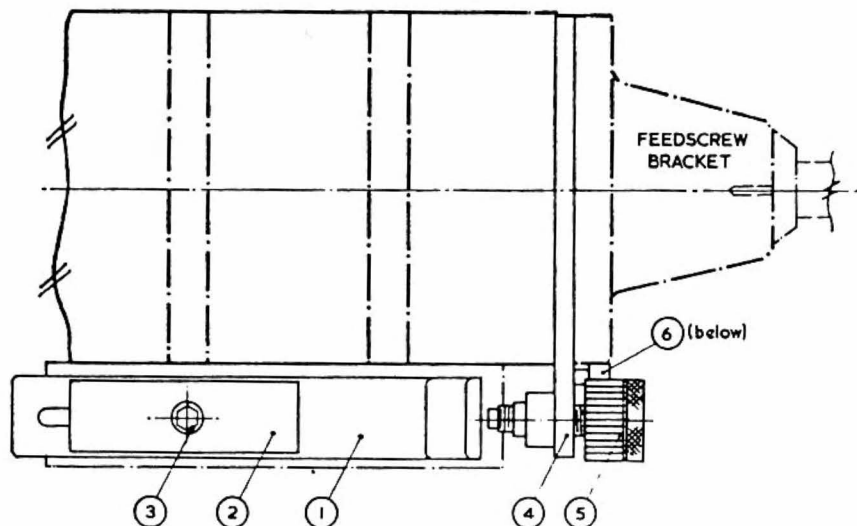

Fig. 3.11 Arrangement of the screwcutting depth stop.
Fig. 3.11 shows the arrangement. The slide-bar (A) is provided with a slotted hole and is held by the Allen screw and strong-back washer (2) (3) using the hole in the saddle to which the travelling steady is attached. This bar is adjusted to suit the diameter of the workpiece, and that shown will allow for cylinders up to $3\frac{7}{8}$ in. diameter. The bracket (4) is slipped in between the end of the cross-slide and the feedscrew bracket, and has a tapped boss at one end to carry the stop-screw (5). This has 40 tpi, and the head is engraved with 25 serrations engaging with the click spring (6). Thus one click